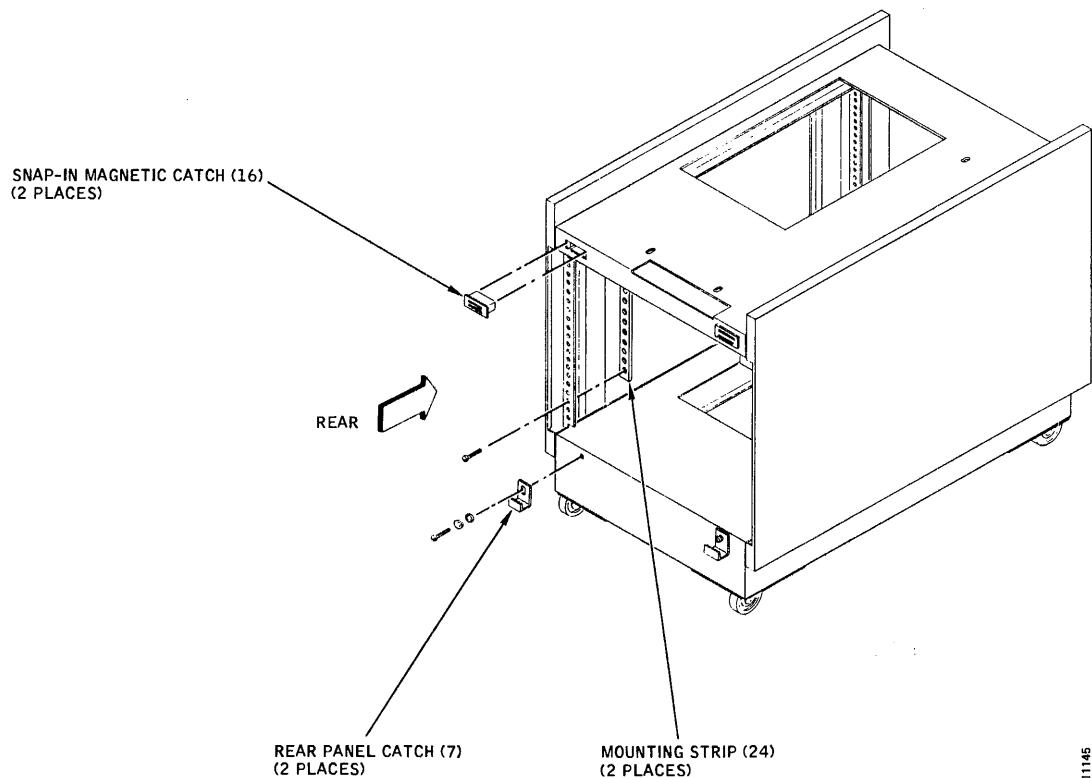

Figure A-5. Stand Assembly, Steps 8 thru 10
8. Install two Rear Panel Catches (7) to the Frame Base member of the assembly, as shown in Figure A-5, using two #10 x 9/16" pan head screws, split lockwashers, and flat washers (13, 14, 15).
9. Install two snap-in, Magnetic Catches (16) into the two slots in the Frame Top member of the assembly, as shown in Figure A-5.
10. Install two Mounting Strips (24), one each to the rear of the fixed frame members on the right and left sides, as shown in Figure A-5. Use two #10 x 9/16" pan head screws passing thru the third hole from the bottom of the fixed frame member into the bottom hole of the mounting strip, as shown in the figure.